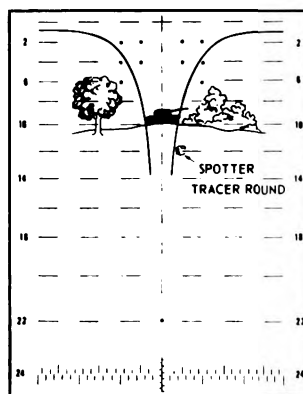
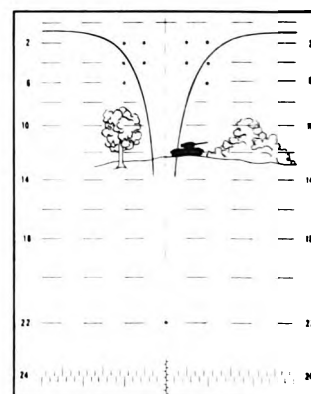

Figure 5.
Figure 6.
a. Spotting-gun method is the primary method of fire adjustment up to 1,100 meters. The gunner fires the spotting gun and notes the point on the sight reticle where the burst appears (figure 5), and adjusts the lay of the weapon until that point appears to be centered on the target's visible center of mass (figure 6). He again fires the gun. If he receives a hit, he immediately fires the major caliber round.